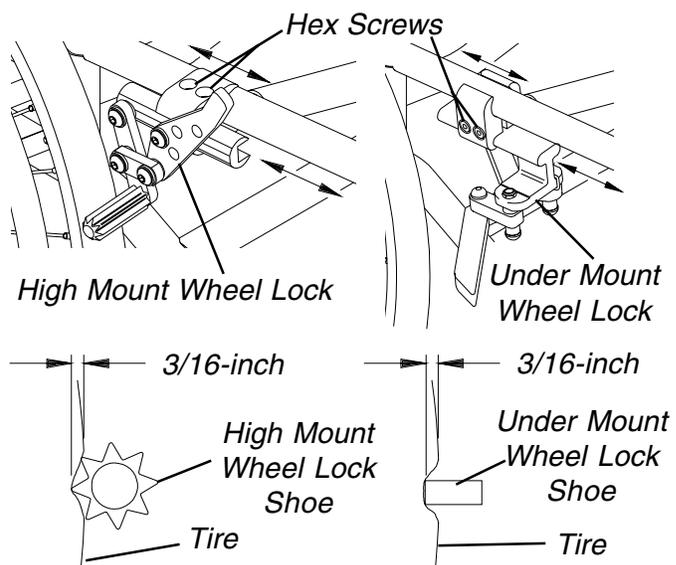

FIGURE 7 - WHEEL LOCK ADJUSTMENT/REPLACEMENT
**WHEEL LOCK ADJUSTMENT/REPLACEMENT (FIGURE 7)**
2. Perform one (1) of the following: